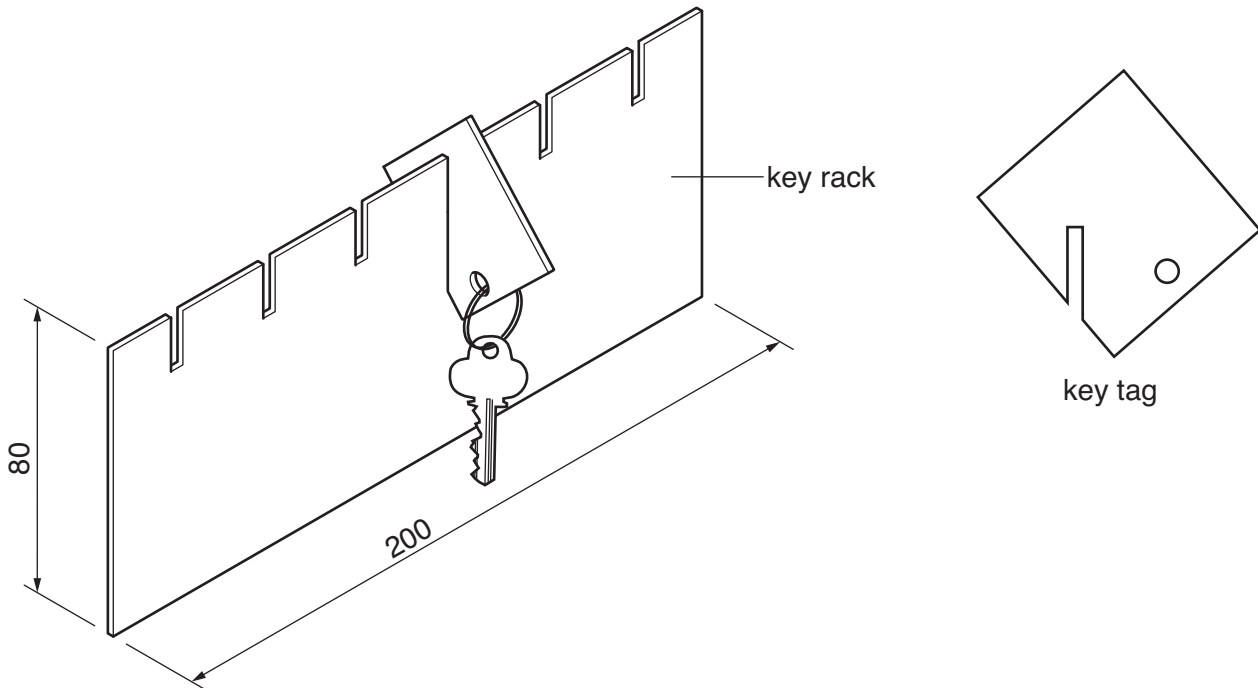

Fig. 3
- 3 Fig. 3 shows an incomplete design for a key rack and one key tag. The key rack and the key tag are made from 3 mm thick acrylic.